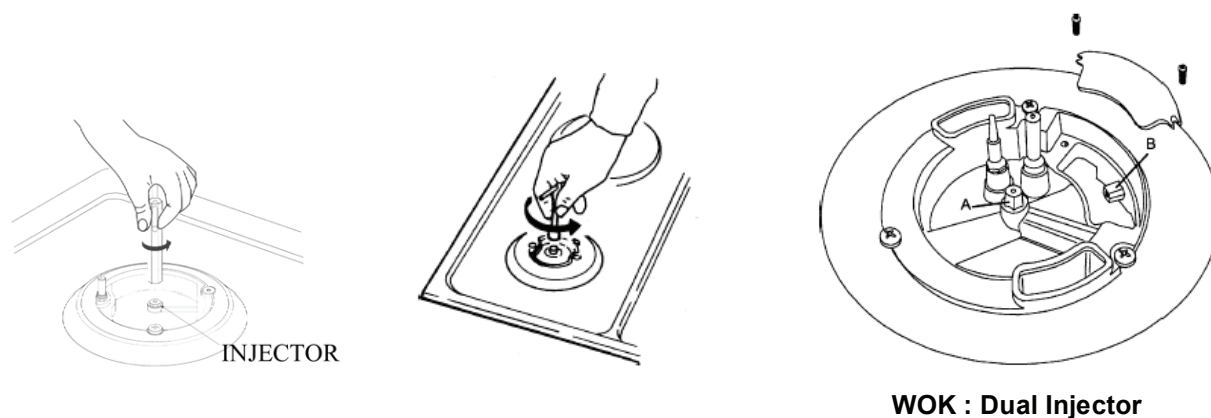

FIG 3
- Replace the injectors (Fig 3) with the corresponding type of gas to be used (See table Page 15).